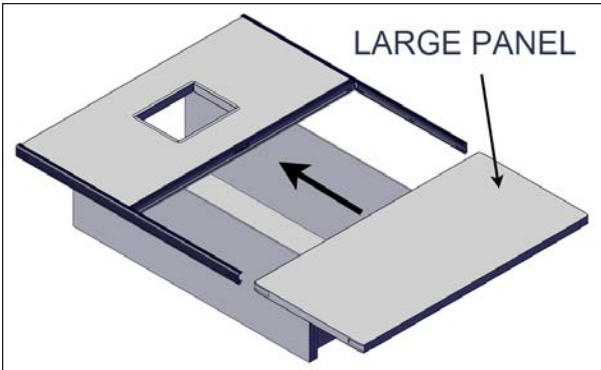

FIGURE 41: INSTALL LARGE PANEL INTO THE C-CHANNELS
- Slide the large panel (approx. 47" x 96" [119 cm x 243 cm]) into the C-channels. Ensure the I-beam has slid over the panel on both the bottom and top side (Figure 41).